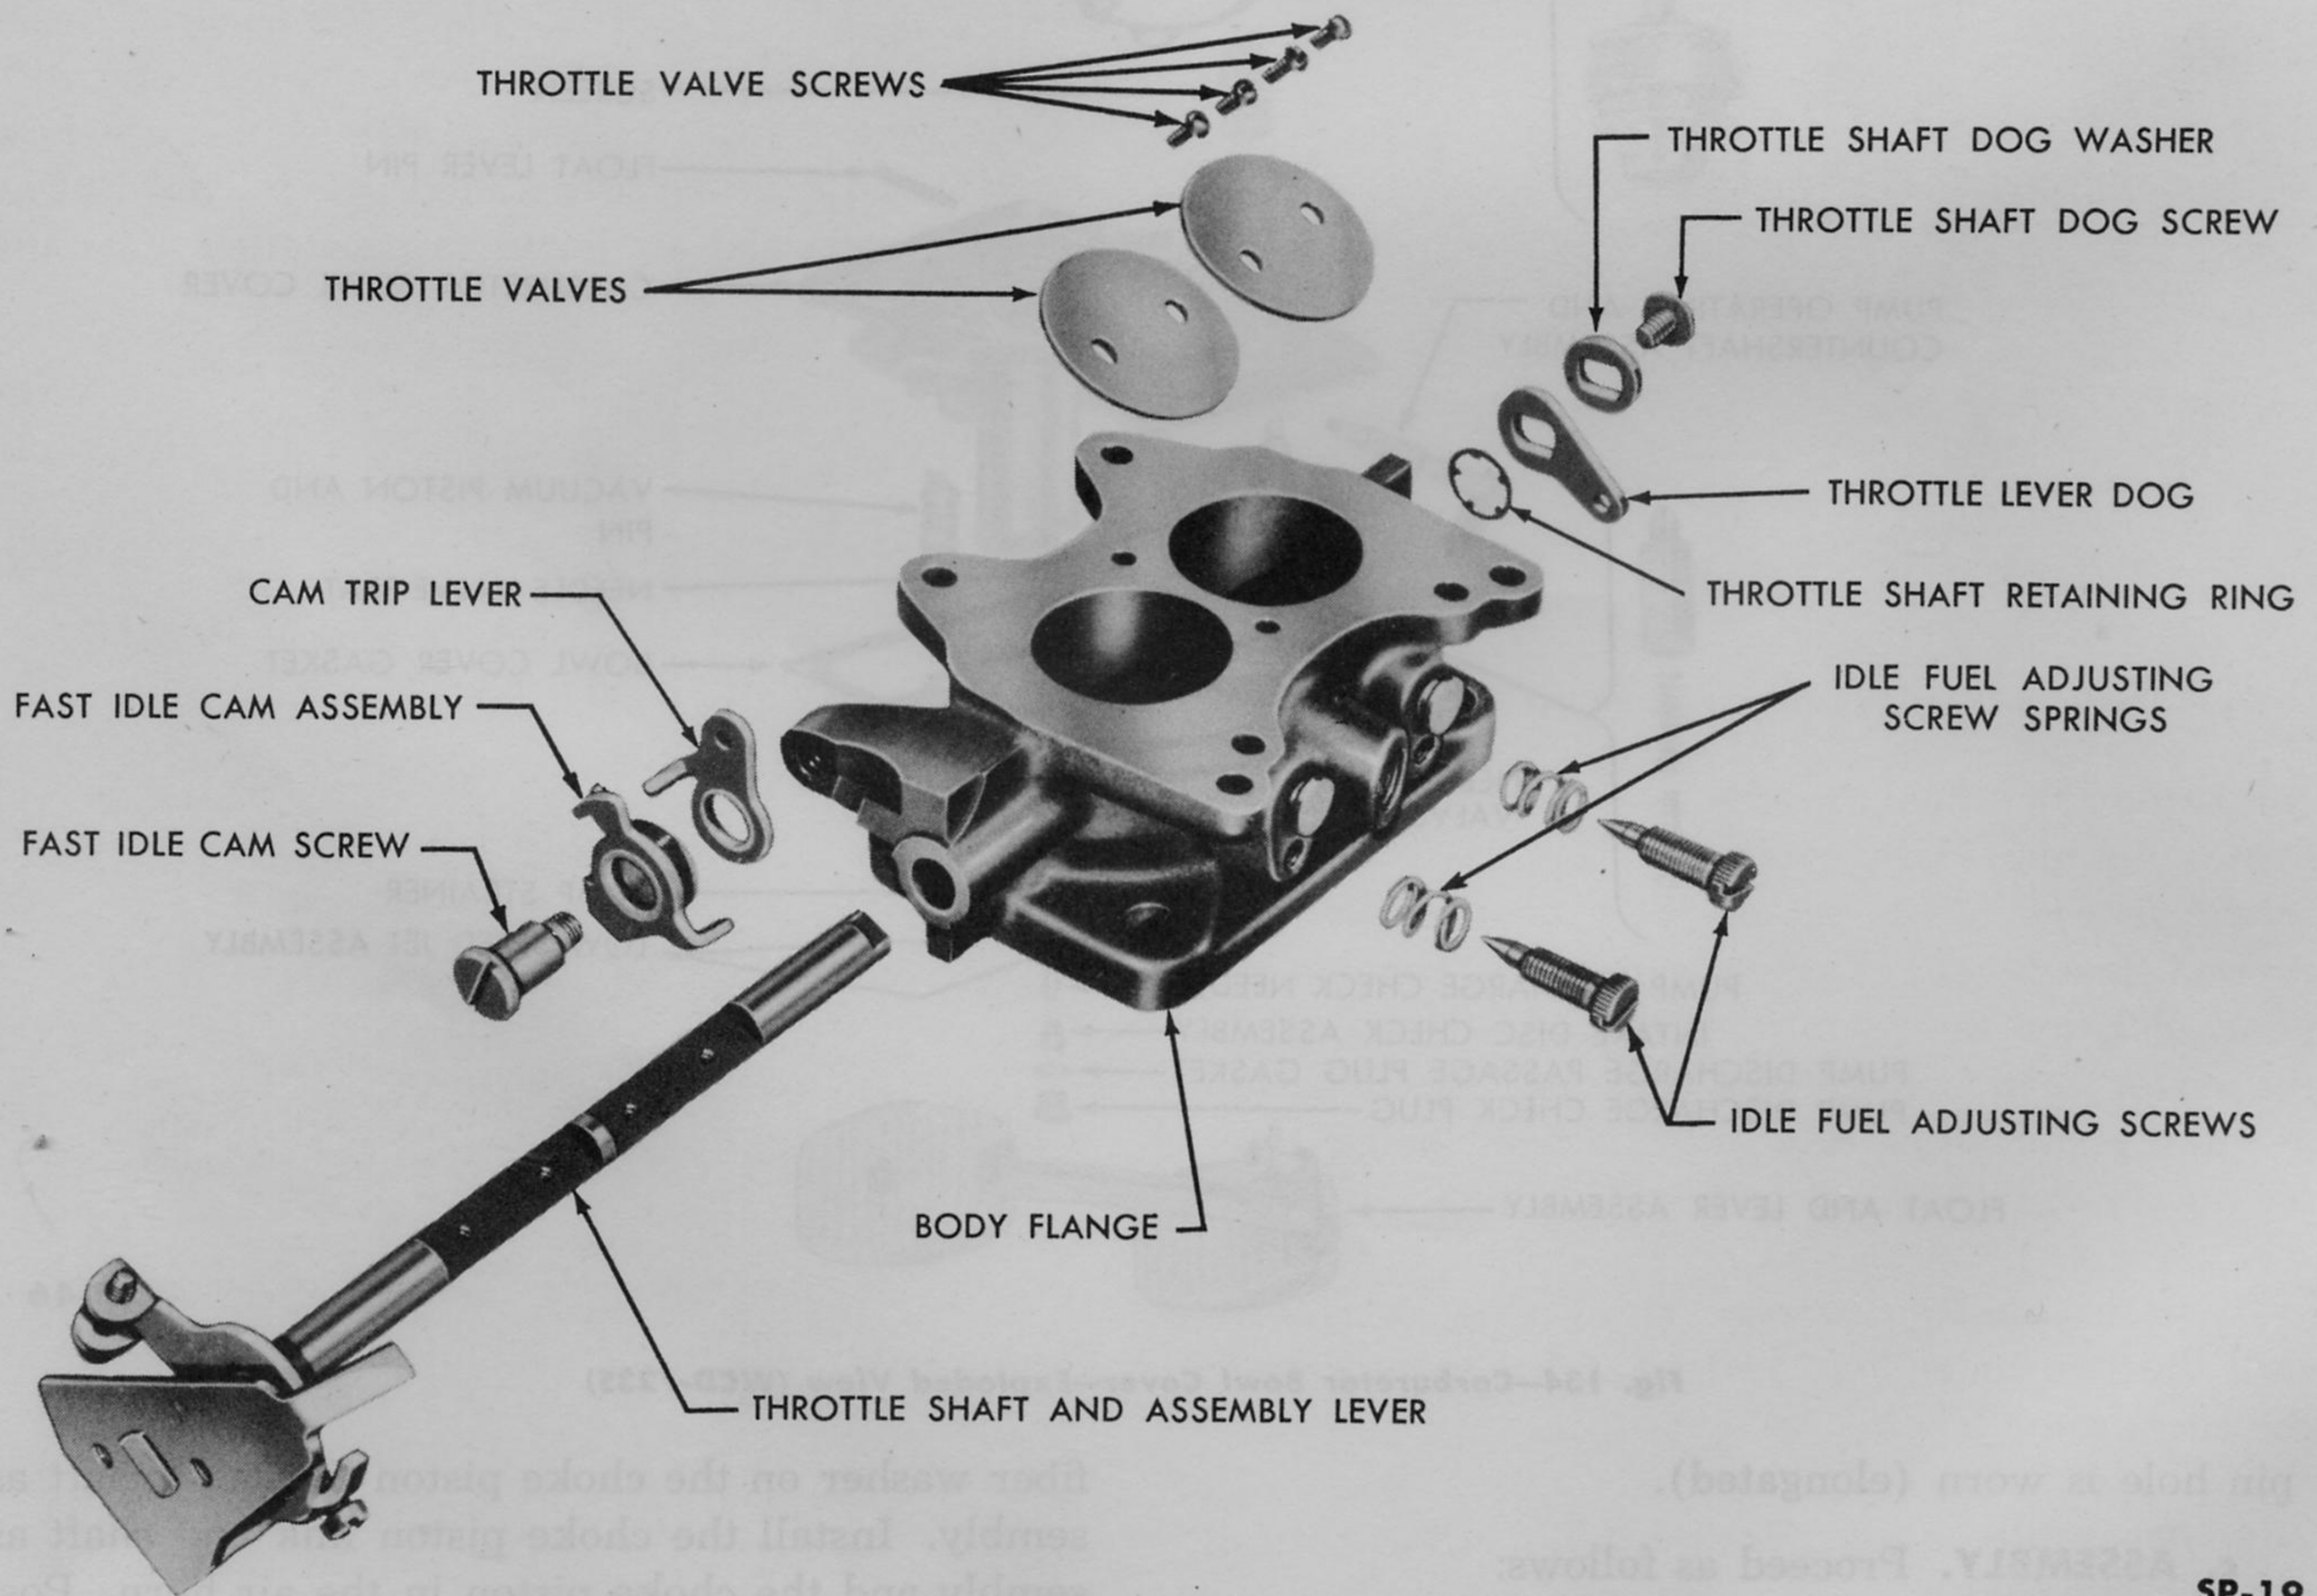

Fig. 136—Body Flange—Exploded View (WCD-7235)
7. Disassemble Body Flange (Fig. 136). Remove the screw, throttle shaft dog washer and lever dog from the throttle shaft. Remove the throttle shaft retaining ring from the throttle shaft. Remove the two screws from each throttle valve
4. Assemble Body Flange (Fig. 136). Install the two idle fuel adjusting screws and springs in the body flange. Position the throttle valves on the shaft